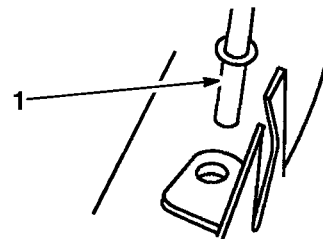

Figure 43
3. Insert chute support rod through hole at right rear of deck (Fig. 43).